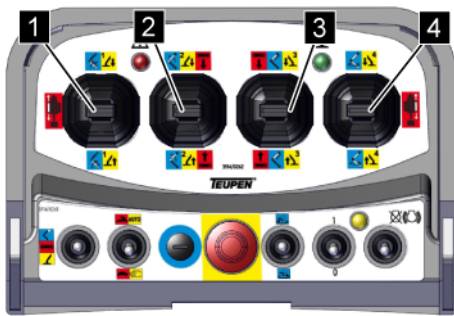

Fig. 120: Outrigger control levers
9. Use the control levers (Fig. 120/1 to 4) to operate the outriggers 1 to 4 as per the following table.